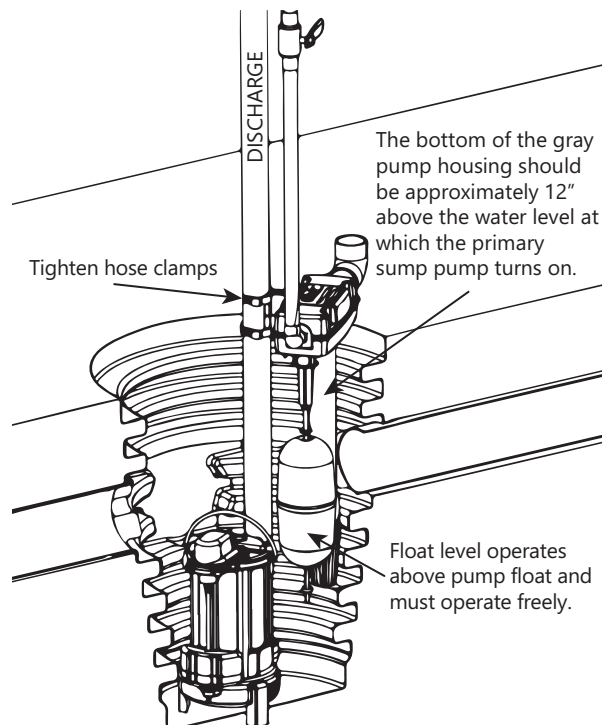

Figure 2. SumpJet Placement
1. Using the hose clamps provided, mount the SumpJet to the existing discharge pipe. Place the unit so the float level will operate a few inches above the turn-on level of the primary sump pump. (Refer to Figure 2). Tighten hose clamps on discharge pipe.